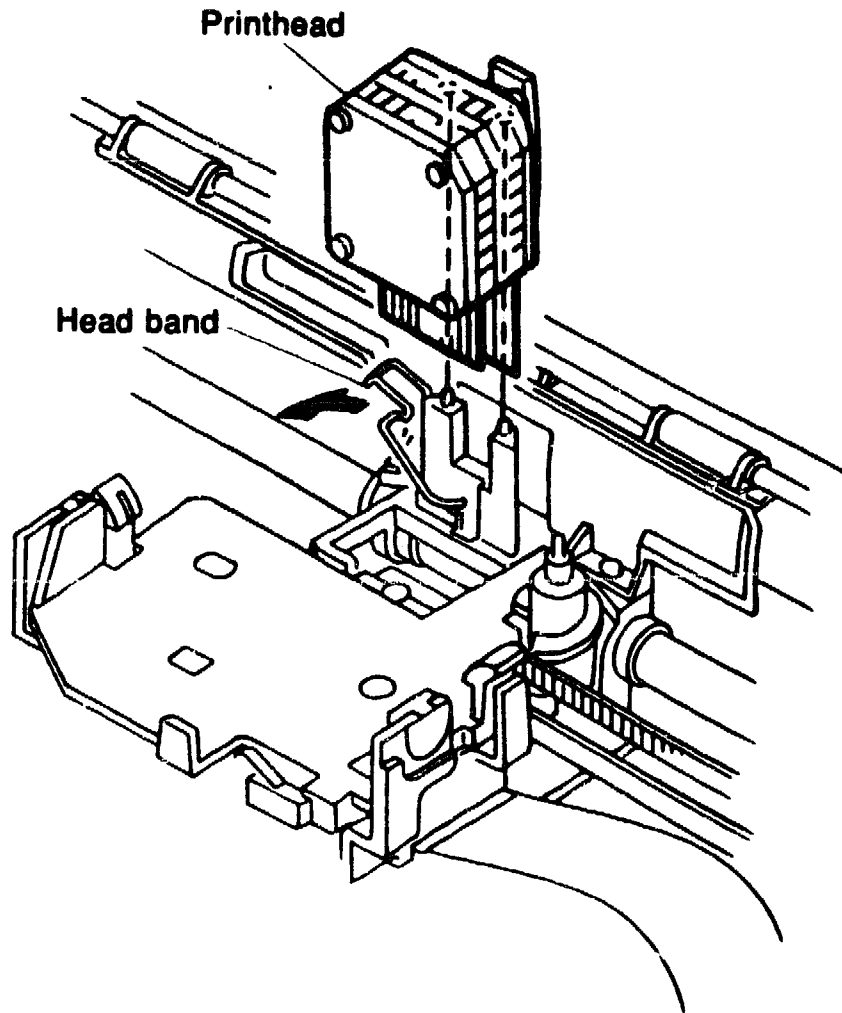

Figure 6-4 Removing the Printhead
3. Remove the head band from the printhead, and pull out the printhead upward (Figure 6-4).